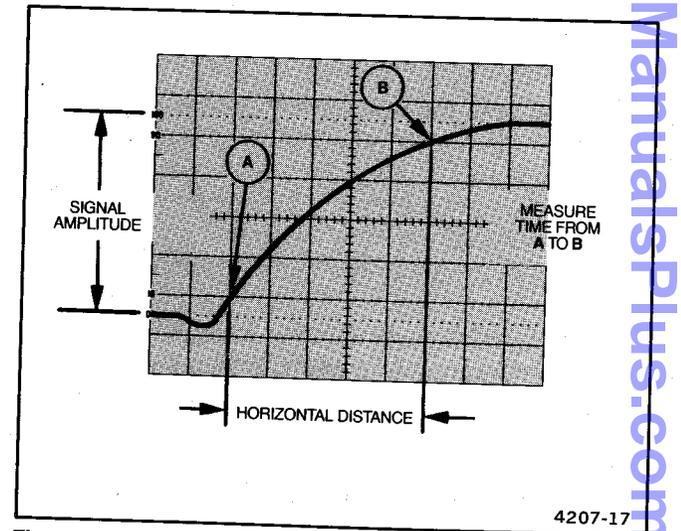

Figure 3-6. Measuring rise time.
4. Horizontally position the display so the 10% point on the waveform intersects the second vertical graticule line (Figure 3-6, Point A).
5. Measure the horizontal distance between the 10% and 90% points (Figure 3-6, Points A and B) and calculate time duration using the following formula:
**EXAMPLE:** In Figure 3-6, the horizontal distance between the 10% and 90% amplitude points is 5 divisions, and the SEC/DIV switch is set to 1  $\mu\text{s}$  per division. Horizontal MODE is set to X1.